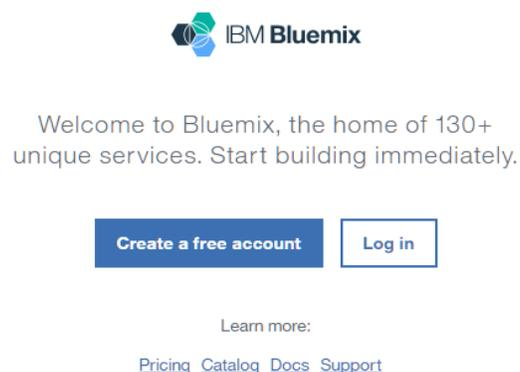

Figure 14. Sensor-to-Cloud IBM Bluemix
3. Log into the Bluemix account page that is shown in Figure 14.